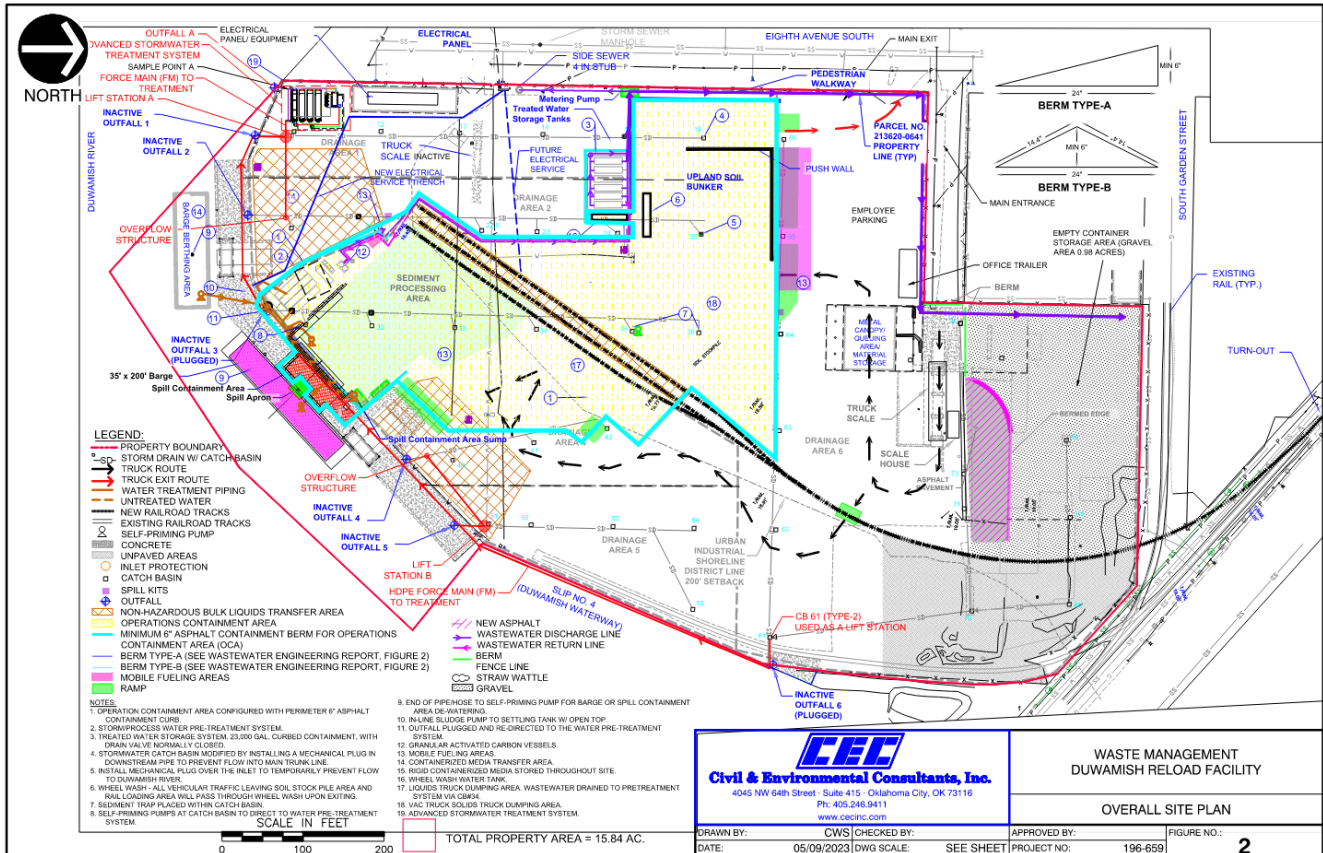

Figure 5- DRF Site Layout
Waste Management National Services, Inc. (WM) operates the Duwamish Reload Facility, also called the 8th Avenue South Reload Facility or 8ASR (Facility). The Facility is a reload facility for contaminated dredge sediment, industrial wastes, and contaminated upland soil from the Duwamish River and other sites in the Pacific Northwest, including Alaska and Canada. Accepted materials arrive at the Facility from commercially operated barges, as well as trucks, and is transferred to rail or trucks for transport offsite. Access to the Facility is shown on Figure 5. The Facility is accessed three ways: by truck, rail, and barge. Truck access is via 8th Avenue South or South Othello Street. The Facility perimeter is completely fenced (landside) to prevent unauthorized vehicle access. Two entrance and exit gates located on 8th Avenue South, and one gate located at the East end of South Othello Street, control access to the Facility. Gates are locked during non-business hours to prevent unauthorized access.